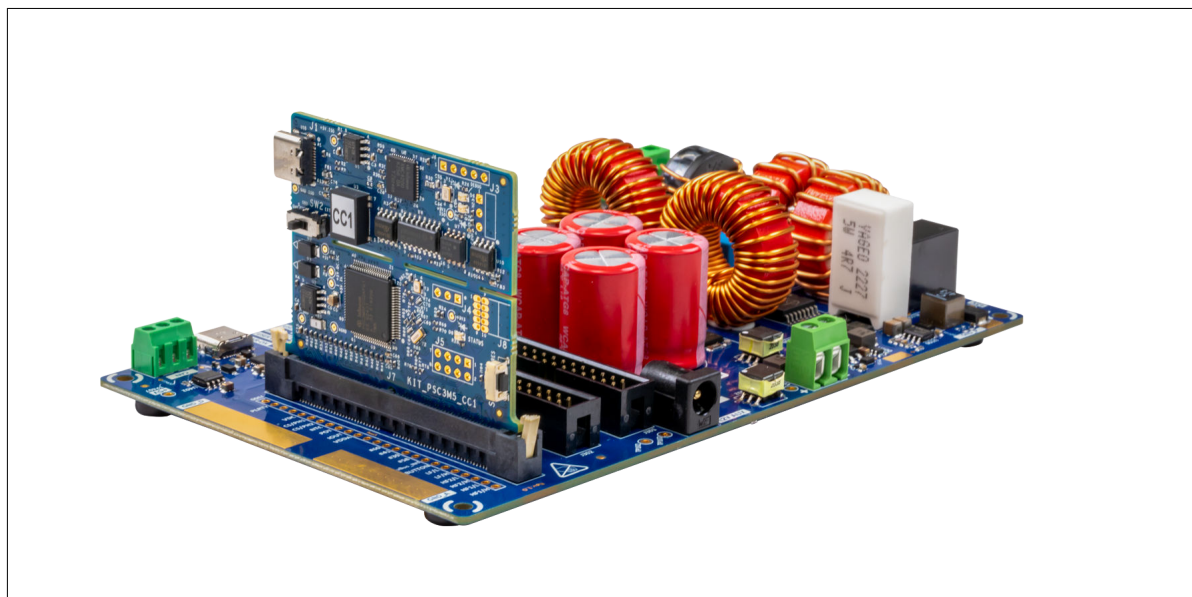

Figure 7 Control-card installation
2. Insert the PSOC™ C3 Control Card into the control-card slot, as shown in Figure 7